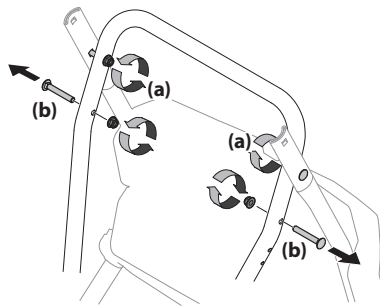

Figure 2-2
- Loosen the top two nuts (a) securing the upper and lower handle and remove the two carriage screws (b) from the lower handle and set aside as shown in Figure 2-2.